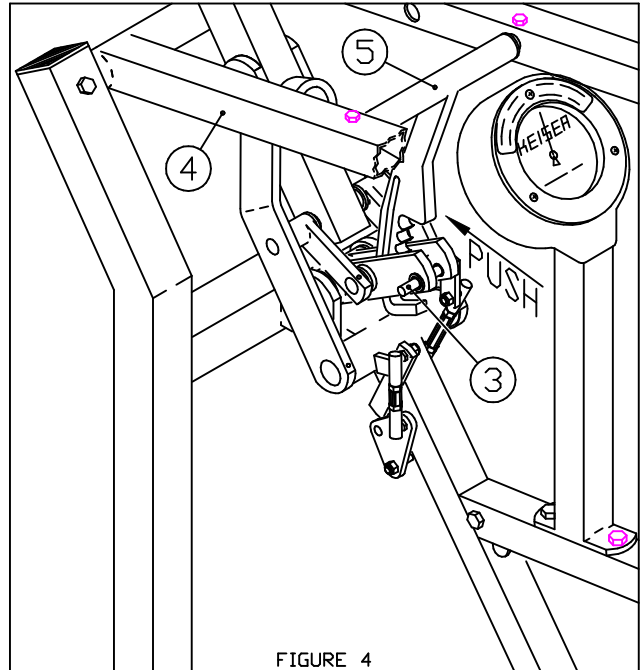
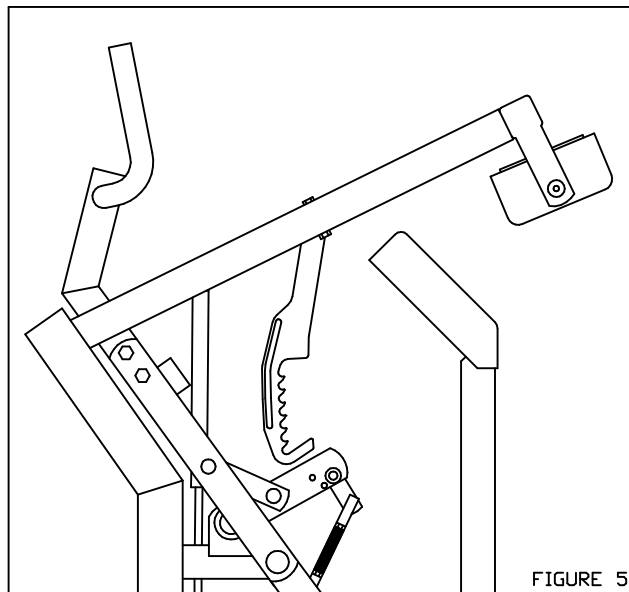

FIGURE 4
FIGURE 5
2. WHILE PUSHING DOWN SLIGHTLY ON THE KNEE PAD ARM (ITEM 4), PUSH THE RACK (ITEM 5) AWAY FROM THE ROTATE LINK (ITEM 3) (SEE FIGURE 4). CAREFULLY ALLOW THE KNEE PAD ARM AND RACK TO RAISE UP UNTIL THE RACK CLEARS THE ROTATE LINK AND THE KNEE PAD ARM IS AT FULL HEIGHT (SEE FIGURE 5).